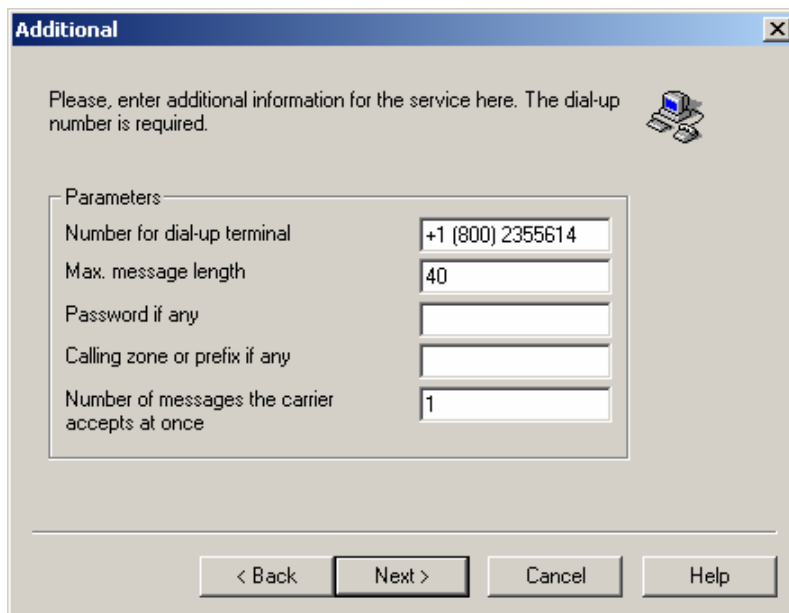

Figure A.10. Configuring a New TAP Service: Additional Tab
4. On the **Additional** tab, shown in **Figure A.10**, configure the following parameters:
- **Number for dial-up terminal:** Enter the service modem number. This is the phone number your modem will call to connect to the pager service provider. Your service provider will need to inform you of this number, which must be in TAP format. For the United States, the format is +1 (800) 2345678. The international format is +44 (215) 2345678.
- **Maximum word wrap for breakup**: Generally, choose a number that evenly divides into the number chosen for the maximum message length (in the **Additional** tab shown in Figure A.10).